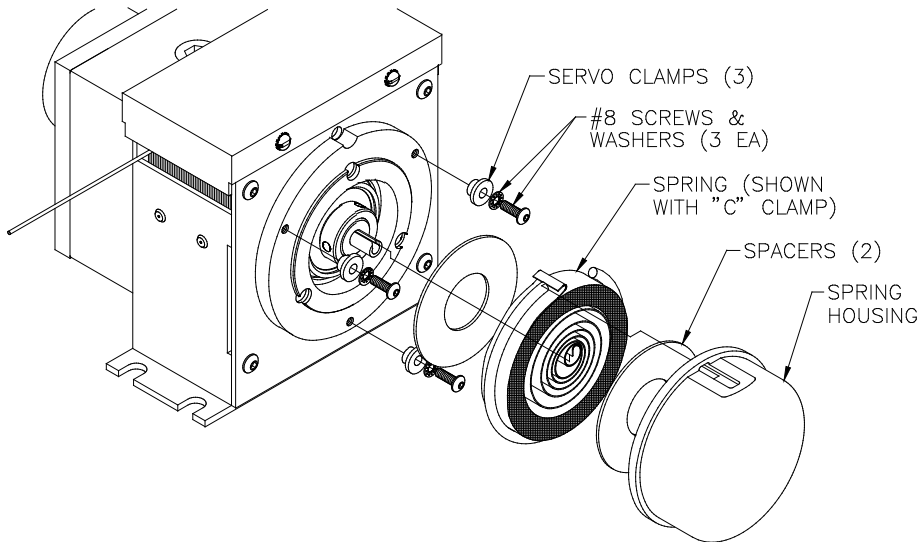

Fig. 4 Spring assembly parts - 925 A1
2) Loosen two of the three servo clamp screws with the Allen wrench (see **Fig. 4**). Grasp the spring housing firmly while loosening the third screw. Relax any residual tension. If spring removal and installation is not required, refer to item 3 of this section for remaining tension adjustment instruction.
The spring housing assembly may be freed by removing all three servo clamp screws. Grasp spring cover, which is an aluminum casting, and pull cover and spring free from drum shaft roll pin (see **Fig. 4**). (**CAUTION:** Cover and spring must be removed together as **one** unit.) Spring may now be removed for inspection or replacement by disconnecting spring tang from the cover.